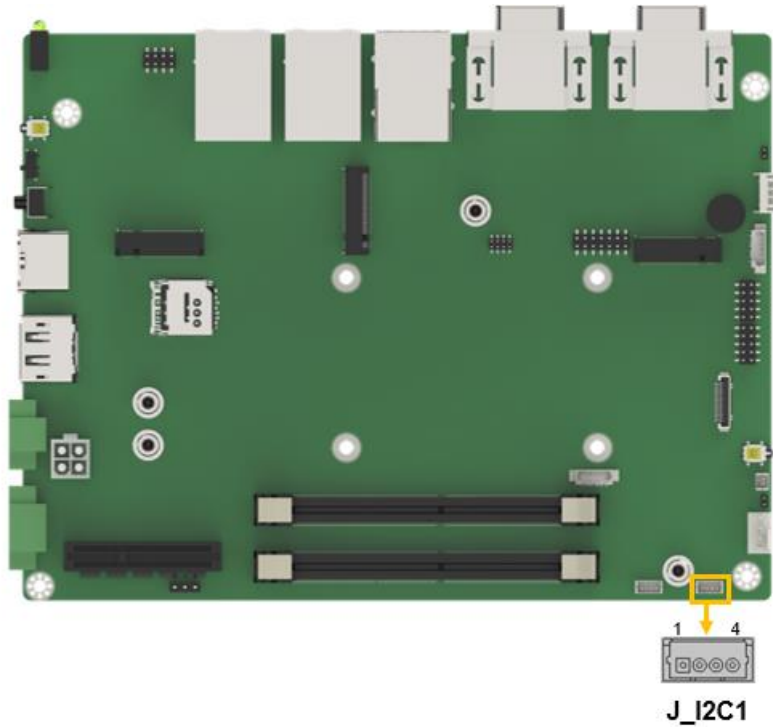

Figure 4-16: I²C Connector Location
- CN Location:** See **Figure 4-16**